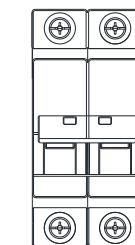

Figure 1
- 2.Close the inverter input breaker of the SYN 200-XH-US, as shown in Figure 1.